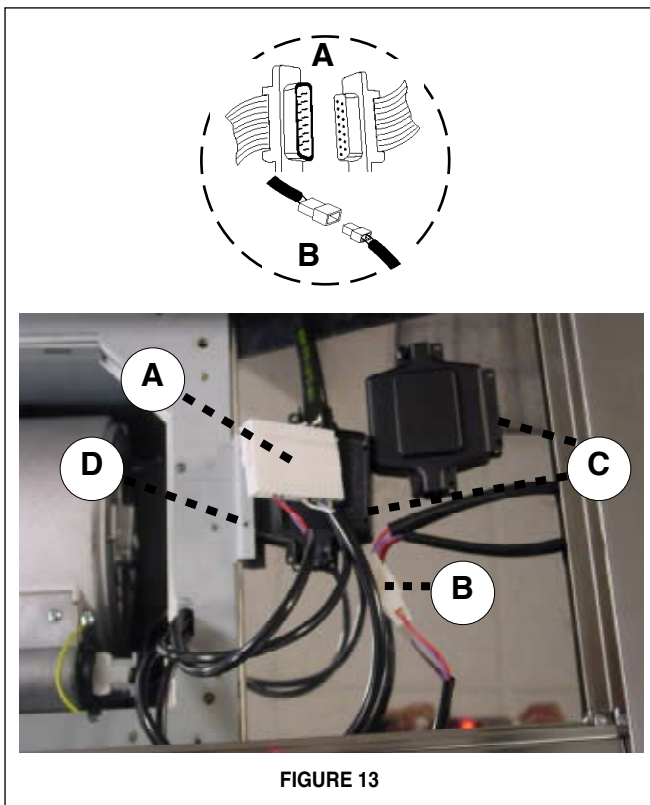

FIGURE 13
5. Connect the CONTROL CABLES together as indicated in A in FIGURE 13. Connect the LIGHT CABLES together as indicated in B in FIGURE 13. Insert the connected CONTROL CABLES (A in FIGURE 13) into the black plastic CONNECTOR BOX (C in FIGURE 13) by connecting the two black plastic pieces using the four screws provided. Using the two longer screws provided, attach the assembled CONNECTOR BOX to the METAL FLANGE (D in FIGURE 13).